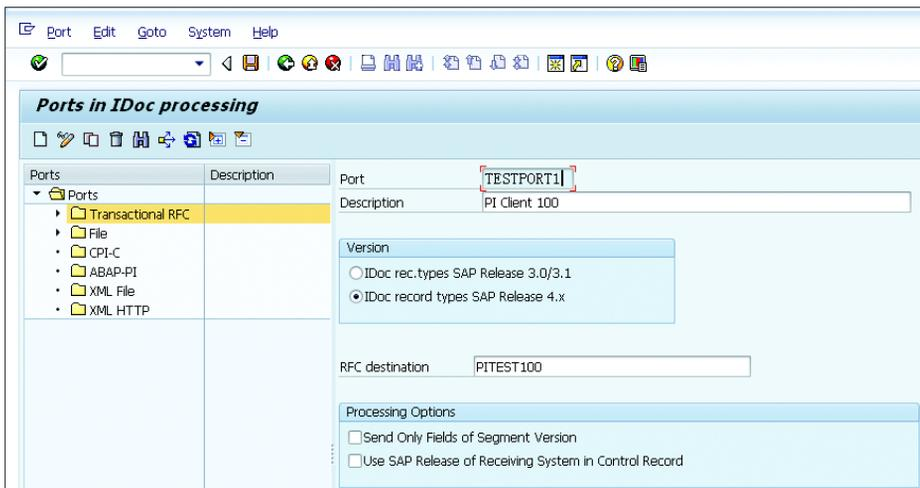

Figure 3.38 Creating the Receiver Port for IDoc Processing
- Create the receiver port via Transaction WE21. This configuration is required to dispatch the messages to the logical systems. The port for SAP PI configuration is shown in Figure 3.38.